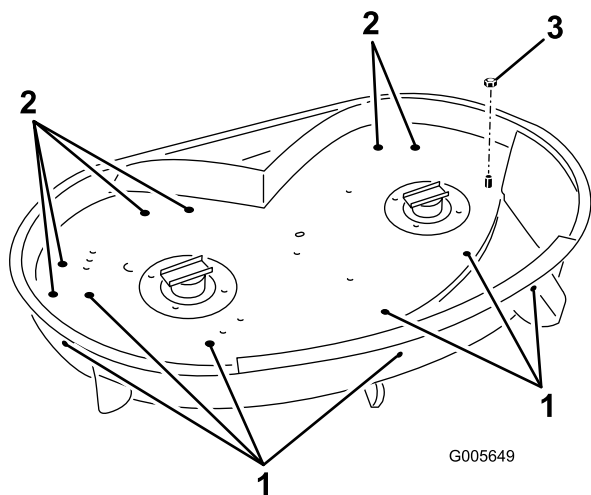

Figure 1
5. Locate the holes illustrated in Figure 1 and proceed as follows:
6. Remove the locknut (3/8 inch) securing the discharge chute retaining rod to the mower (Figure 1). Save it for later use.